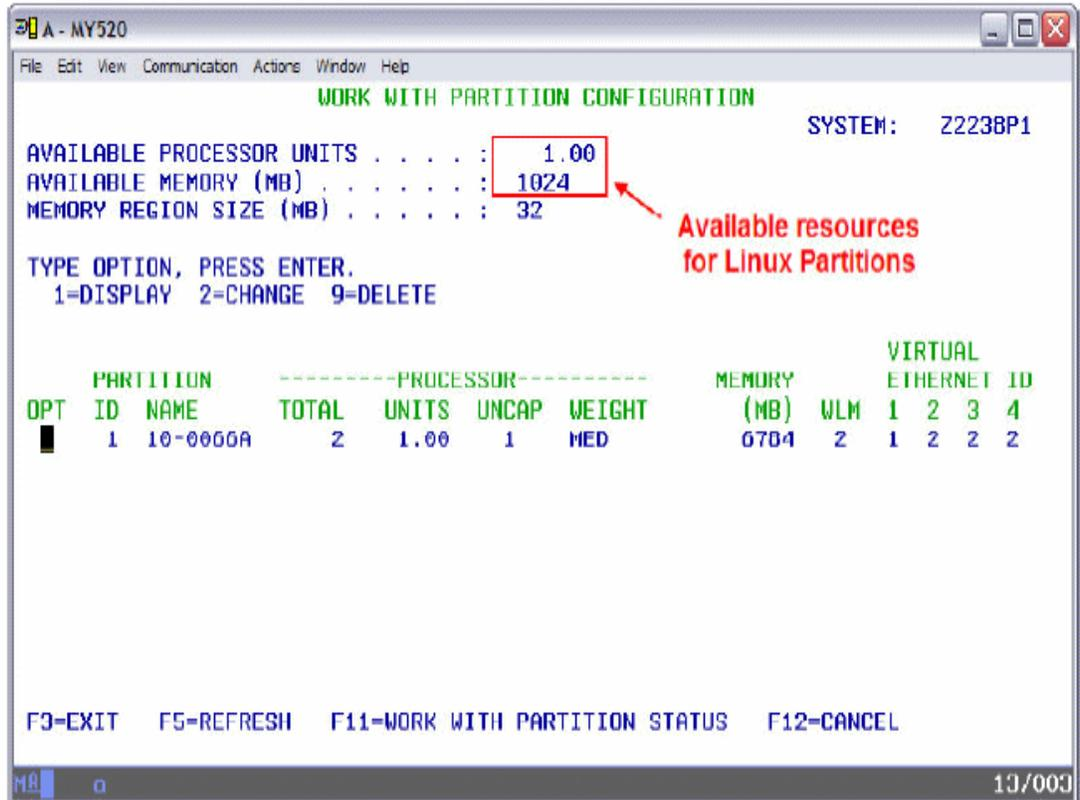

Figure 13-13 Available Resources for Creating New Partitions
11. Figure 13-13 shows the available CPU and memory resources for creating new partitions. In the next section, we use these resources to define new Linux partitions.